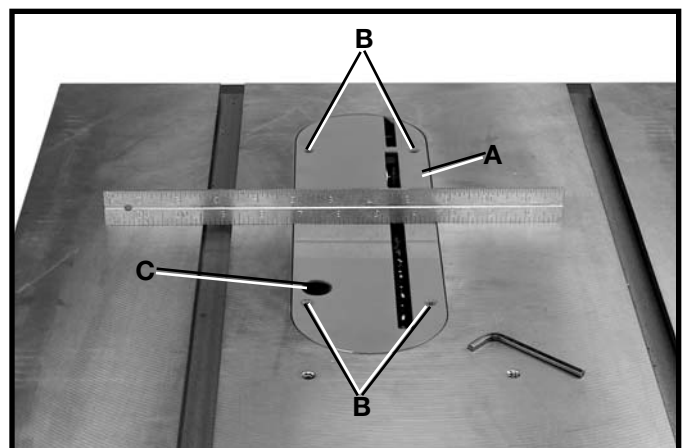

Fig. 52
Place a straight edge across the table at both ends of the table insert as shown in Fig. 52. The table insert (A) should always be level with the table. If an adjustment is necessary, turn the adjusting screws (B), as needed. Four adjusting screws (B) are supplied in the table insert. The table insert is equipped with a convenient finger hole (C) for easy removal.